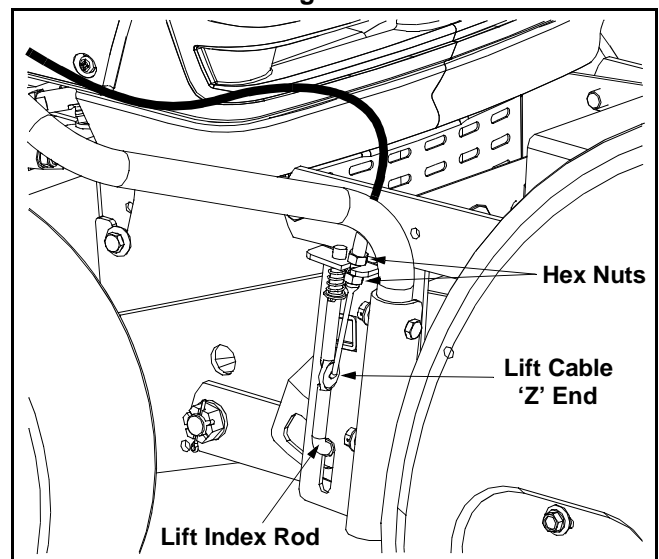

Figure 18
1. Insert the “Z” end of the lift cable into the hole in the lift index rod found on the right side of the support carriage assembly. See Figure 18 .
1. Loosen the upper hex nut a few turns, then tighten the lower hex nut to shorten the cable length. Refer to Figure 18.
2. Loosen the lower hex nut a few turns, then tighten the upper hex nut to lengthen the cable. Refer to Figure 18.